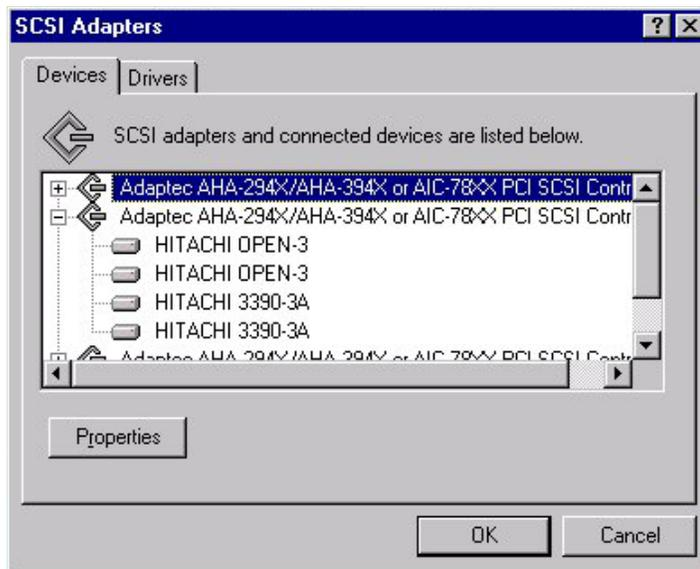

Figure 2.5 Verifying New Device Recognition – SCSI Adapters Control Panel
3. Verify that all new 9900V devices are displayed (see Figure 2.5). All new devices (SCSI disk and HRX devices) should be listed. To check the TID and LUN of any device, select the device, click on **Properties**, and then select the **Settings** tab.